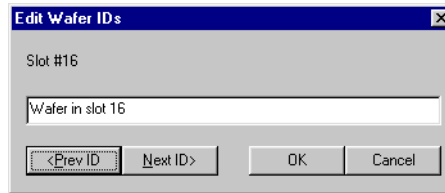

Figure 4-17: Edit Wafer IDs Dialog Box
5. If the Wafer ID should be edited, double-click the ID to display the Edit Wafer IDs dialog box (Figure 4-17). The text above the Wafer ID field identifies the slot number of the selected wafer.